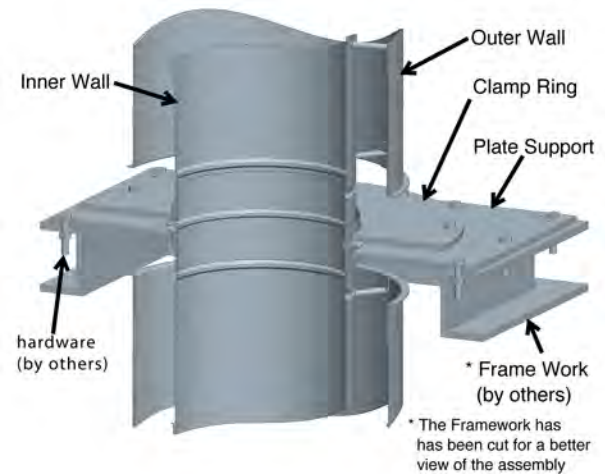
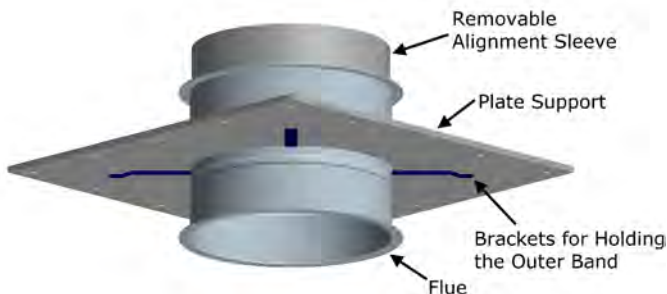

Figure 41a - Anchor Plate on Framing
Figure 43 - Anchor Plate with Length (APL)
The APL is an anchor plate integrated on a length. It cannot be used as a fixed support for vertical or horizontal installation because the anchor plate is free to move on the longitudinal axis of the length. Refer to the Anchor Plate (AP) for all the warnings/details, except for the installation. See Figure 43 for detail of APL.
CAUTION: Small brackets must be on the bottom side so these can hold the outer band (BSE) against the support plates and to make sure the anchor plate is positioned in the middle of the inner wall when installed. See Figure 43 to 46.
NOTE: In the case of an Anchor Plate (AP), refer to Figure 41a and 41b for installation. For the Anchor Plate with Length (APL), Refer to a Figure 43 to 46. If it is not possible to suspend the Tee, it may be supported from the base (See Table 5) for maximum height for a base Supported Tee. When this type of support is necessary, access to the drain cap may be hindered. A structural steel stand can be used to allow access to the Tee Cap (TC) or Drain Tee Cap (DTC).
NOTE: In the case of an Anchor Plate (AP), refer to Figure 41a and 41b for installation.